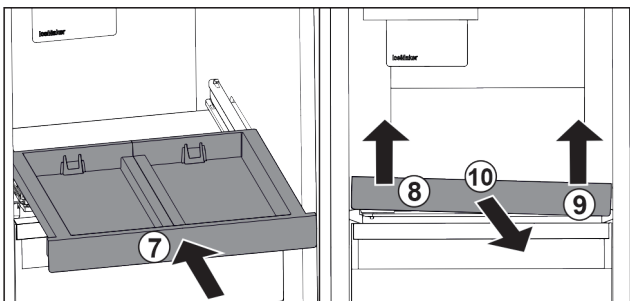

Fig. 101
- ▶ Slide in the pull-out board. Fig. 101 (7)
- ▶ Lift the pull-out board at the front left. Fig. 101 (8)
- ▶ Lift the pull-out board at the front right. Fig. 101 (9)
- ▶ Take out the pull-out board to the front. Fig. 101 (10)